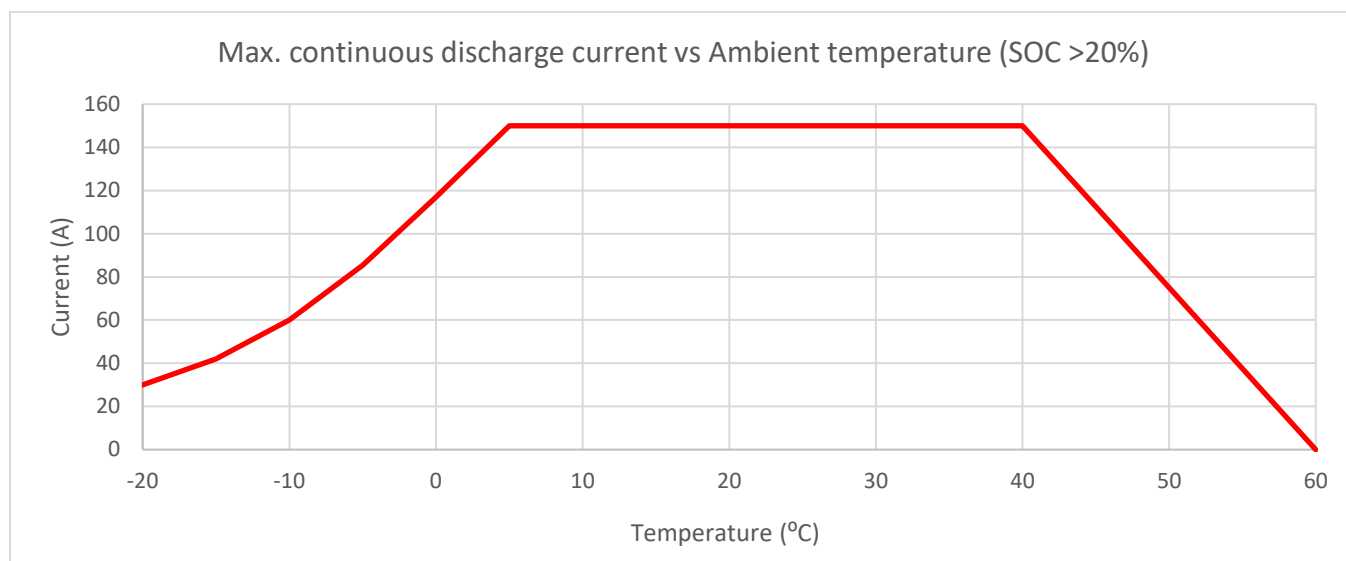

Fig. 1
- Ensure the battery is used within the temperature boundaries specified in Figures 1 and 2.
Discharge Operation Temperature and %RH	-20°C – 60°C; 5% – 85% RH (see figure 1)